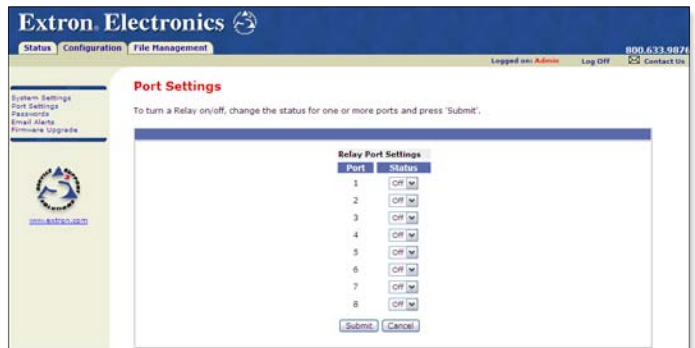

Figure 4-5 — Web server port settings screen
1. the Port Settings default Web page found under the Configuration tab (see figure 4-5)
4. Click Port Settings on the menu (on the left side of the window) and the Port Settings screen (figure 4-5) is displayed.
1. Click Passwords on the menu (on the left side of the window) and the Passwords screen (figure 4-5) is displayed.